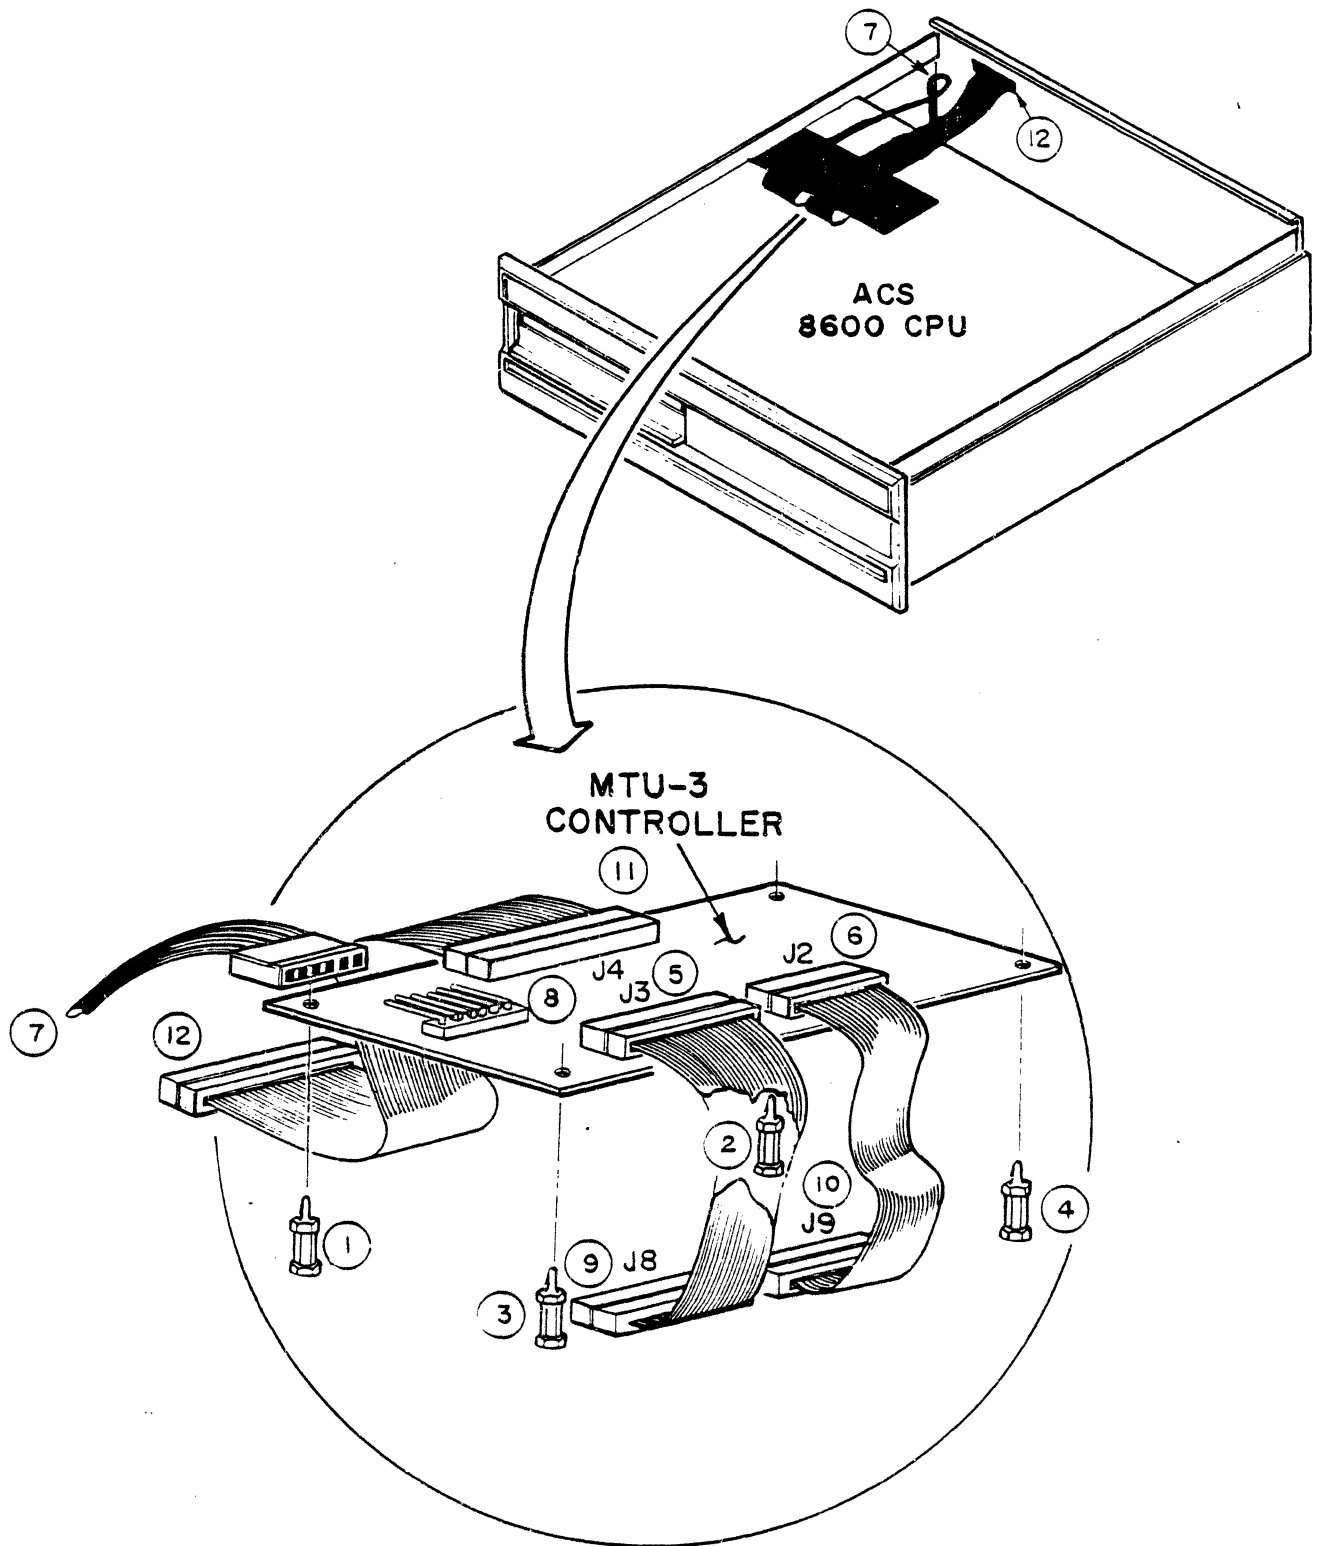
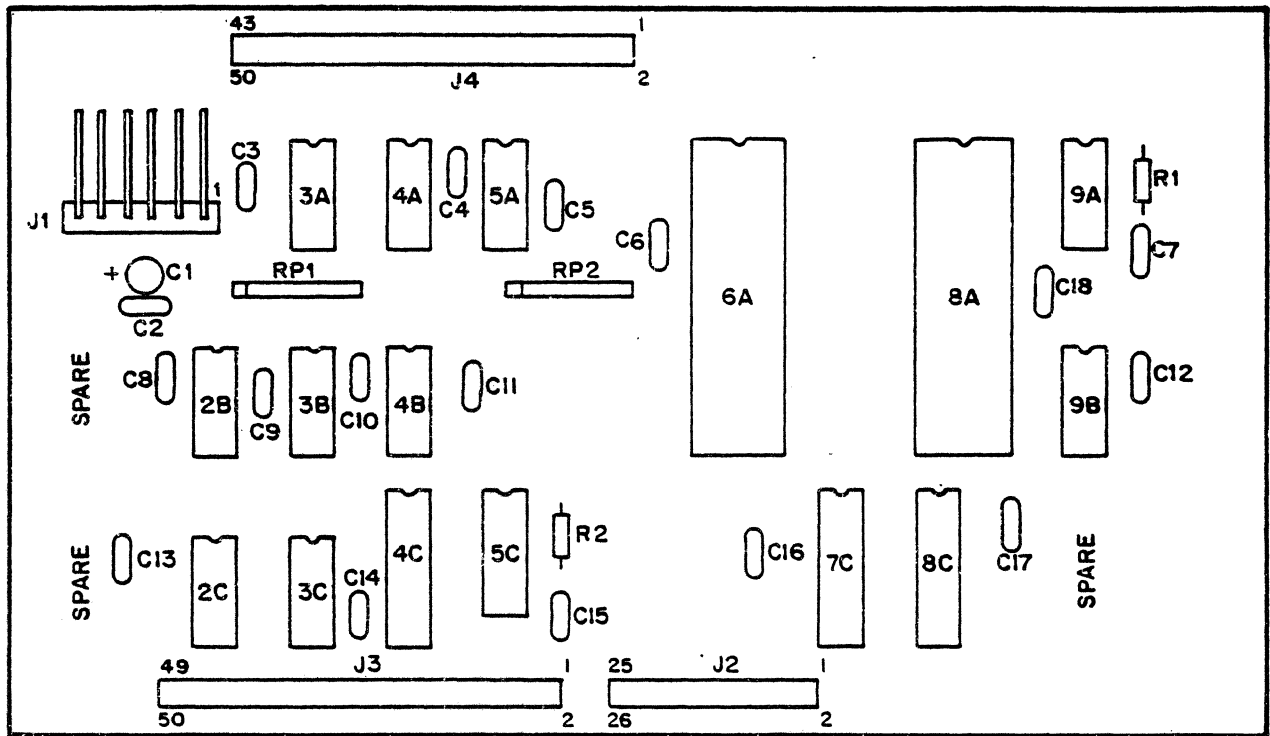
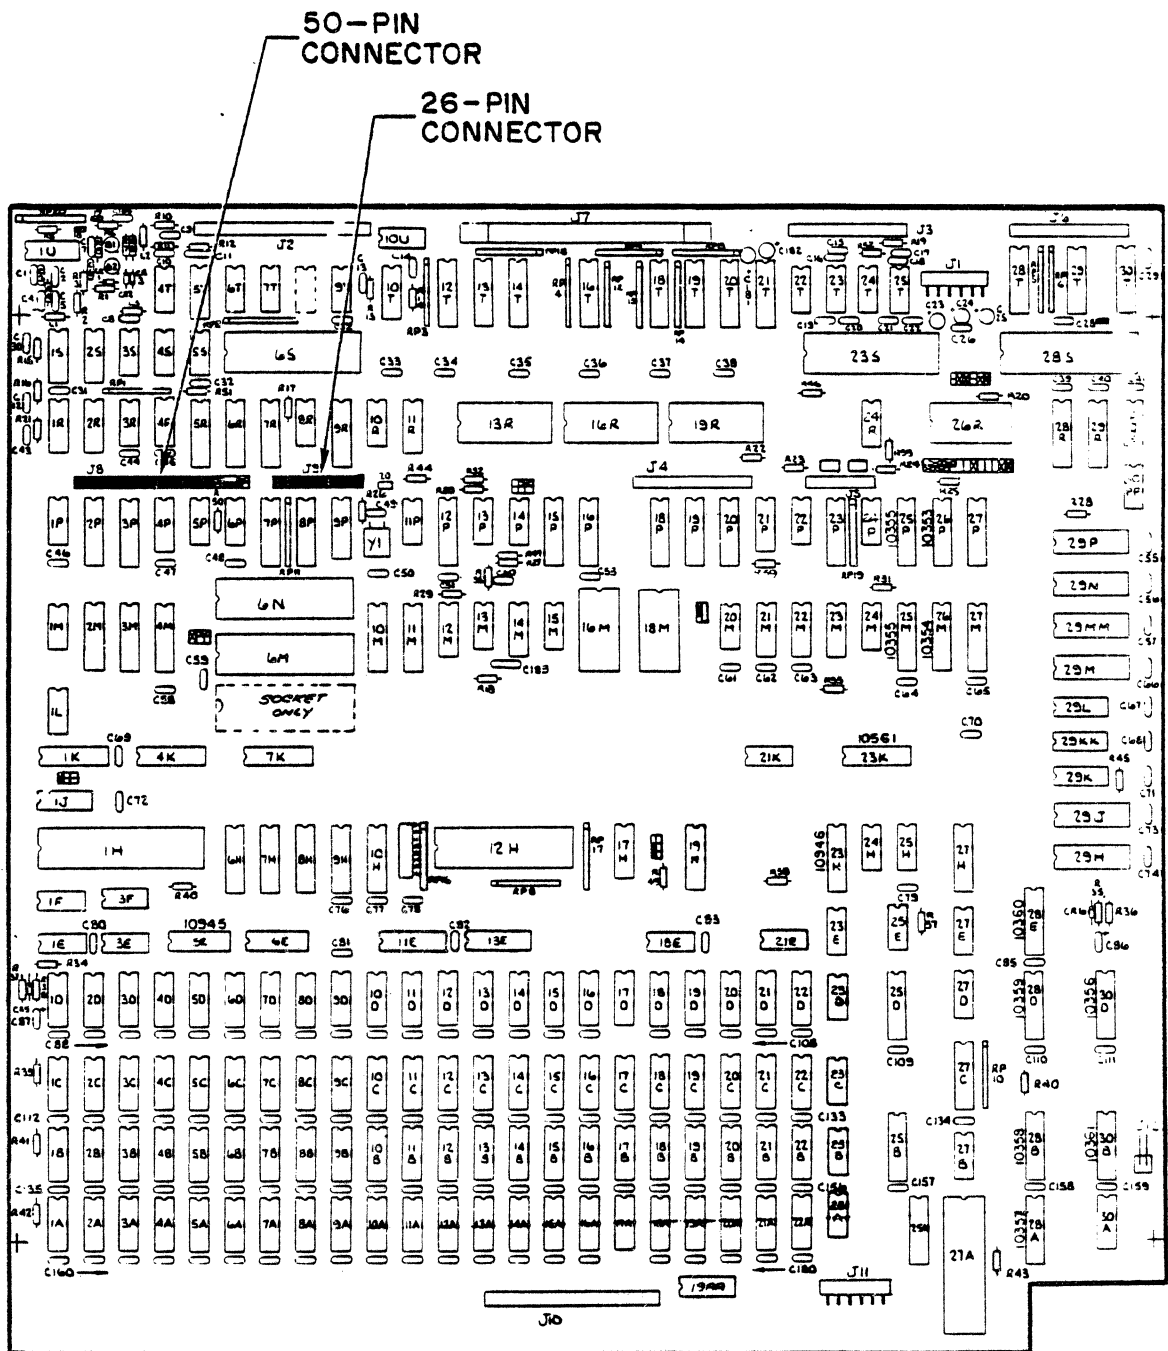

Figure 2-1 ACS 8600 Computer System Reconfiguration
Figure 2-2 ACS MTU-3 Matrix Map
Figure 2-3 ACS 8600 CPU Matrix Map
7. Screw the four plastic standoffs that came in your upgrade kit (they are contained in the Hardware Kit - Part No: 540-11727-002) to the nuts at locations 1 through 4, figure 2-1.
8. Connect the 7-inch 50-pin tape controller cable (Part No: 510-11411-001) to the magnetic tape controller board (Part No: 615-11380-001) at location 5, Figure 2-1. It is labeled J3 on the controller board. See figure 2-2.
9. Connect the 26-pin tape controller cable (Part No: 510-11412-001) to the magnetic tape controller (Part No: 615-11380-001) at location 6, figure 2-1. It is labeled J2 on the controller board. See figure 2-2.
10. Connect the unused 6-pin DC connector located at 7, figure 2-1 (this is part of the assembly harness) to the magnetic tape controller board at location 8, figure 2-1. This connector is labeled J1 on the controller board. See figure 2-2. When making the connection, be certain that the lip of the connector is face up.
11. Connect the remaining end of the 50-pin tape controller cable to the CPU board at location 9, figure 2-1. This is labeled J8 on the CPU board. See figure 2-3. There are four jumper pins that must be removed from the 50-pin connector on the CPU board before connection can be made.
12. Connect the remaining end of the 26-pin tape controller cable to the CPU board at location 10, figure 2-1. This is labeled J9 on the CPU board. See figure 2-3.
13. Connect the rear panel cable (Part No: 510-11446-002) to the rear of the magnetic tape controller at location 11, figure 2-1. It is labeled J4 on the controller board. See figure 2-2.
14. Place the magnetic tape controller onto the four standoffs (locations 1-4, figure 2-1). The board is in place when all standoffs have snapped into place.
16. Insert the remaining end of the rear panel cable (see Step 13 above) into the MTU connector slot (location 12, figure 2-1). Use a 3/16-inch nut driver and needlenose pliers to insert and secure the connector screws into place.